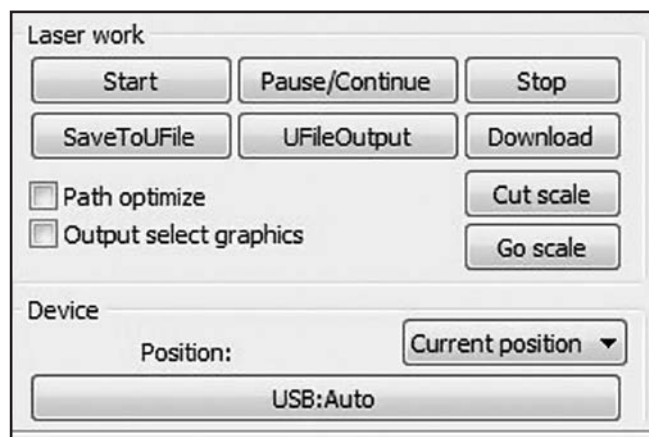

Figure 35. Output panel controls.
1. Change "Device" setting of output panel to "USB:Auto" (see **Figure 35**).
3. Select "SaveToUFile" (see **Figure 35**), navigate to USB flash drive, and select "Save."
6. Click "Ok" to return to output panel (see **Figure 35**).
6. Click "Ok" to return to output panel (see **Figure 35 on Page 34**).